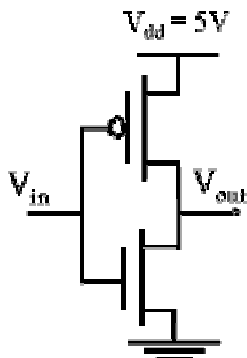

Figure 1: CMOS Inverter
- i. Wire up the CMOS inverter shown in Figure 1 and characterize it.